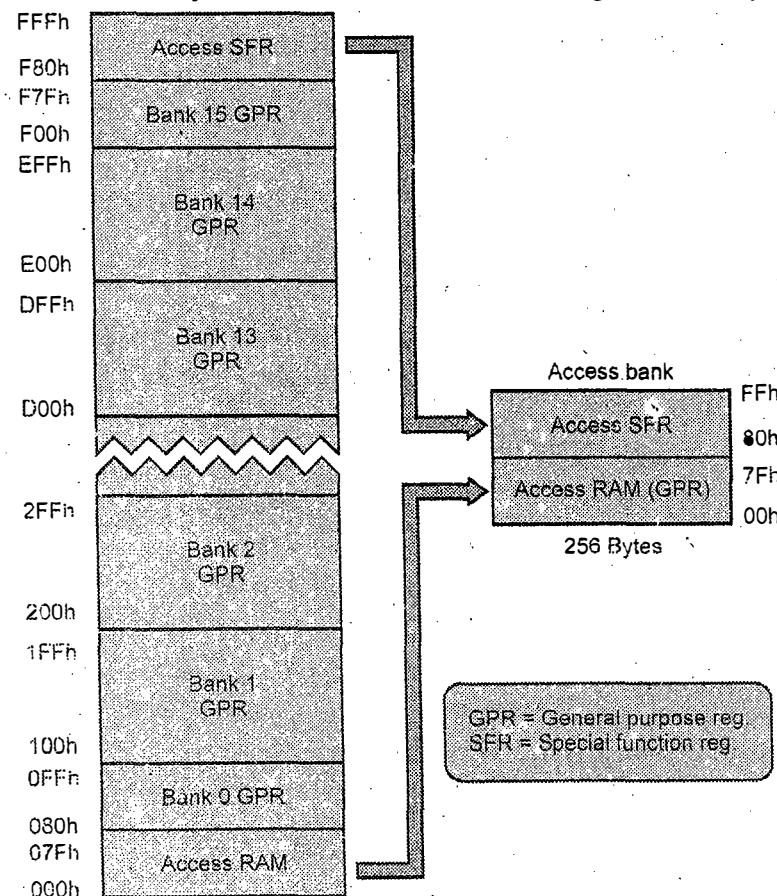

Fig. Q.6.1 : Data memory organization
**Ans. : Data Memory Organization** : The PIC 18F4550 has 4 KB of data memory organized in 16 banks, the banks are accessed by Bank Select Register (BSR). The data bus is of 8 bit and will be stored in memory, as file register. The detailed data organization of data memory is shown in Fig. Q.6.1.